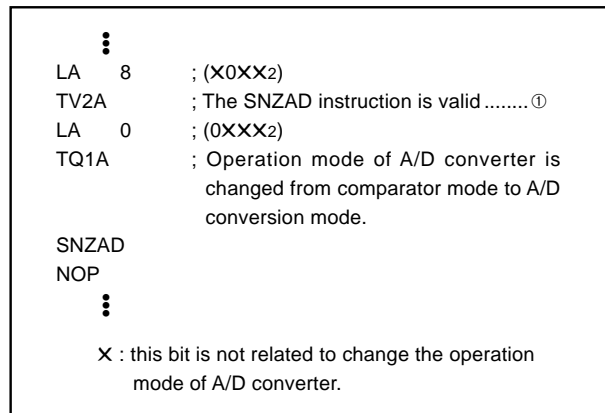

Fig. 50 A/D conversion interrupt program example
- Clear the bit 2 of register V2 to "0" (refer to Figure 50③) to change the operating mode of the A/D converter from the comparator mode to A/D conversion mode with the bit 3 of register Q1.